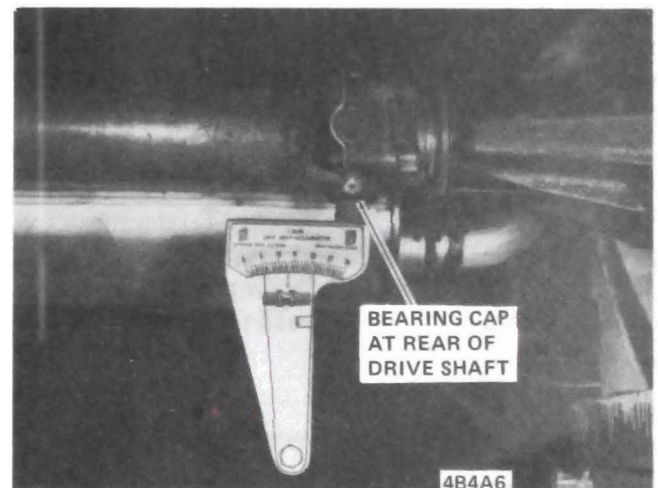

Figure 4A-6 Measuring Angle at Rear of Propeller Shaft
1. Place inclinometer on rear propeller shaft bearing cap. See Figure 4A-6. Center bubble in sight glass and record measurement. Bearing cap must be straight up and down and free of dirt or other foreign material to obtain an accurate measurement.
2. Rotate propeller shaft 90 degrees and place inclinometer on rear drive yoke bearing cap. See Figure 4A-7. Center bubble in sight glass and record measurement.